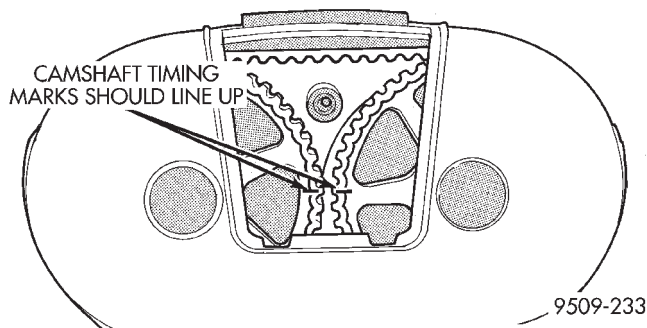

Fig. 40 Camshaft Timing Check
- (4) Check the timing marks on the camshaft sprockets, they should align with each other (Fig. 40).